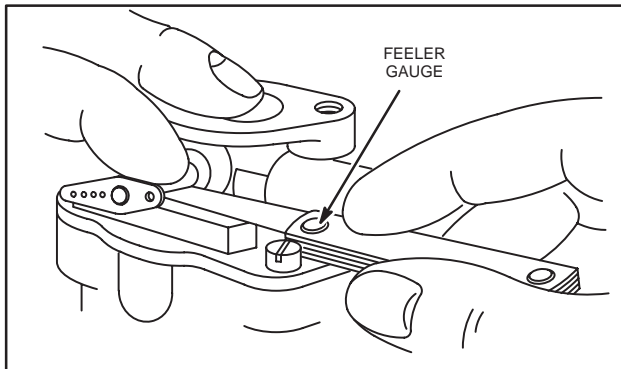

Fig. 271 – CHECKING THROTTLE WEAR
1. Check wear by placing a short iron bar on upper carburetor body as shown in Fig. 271.